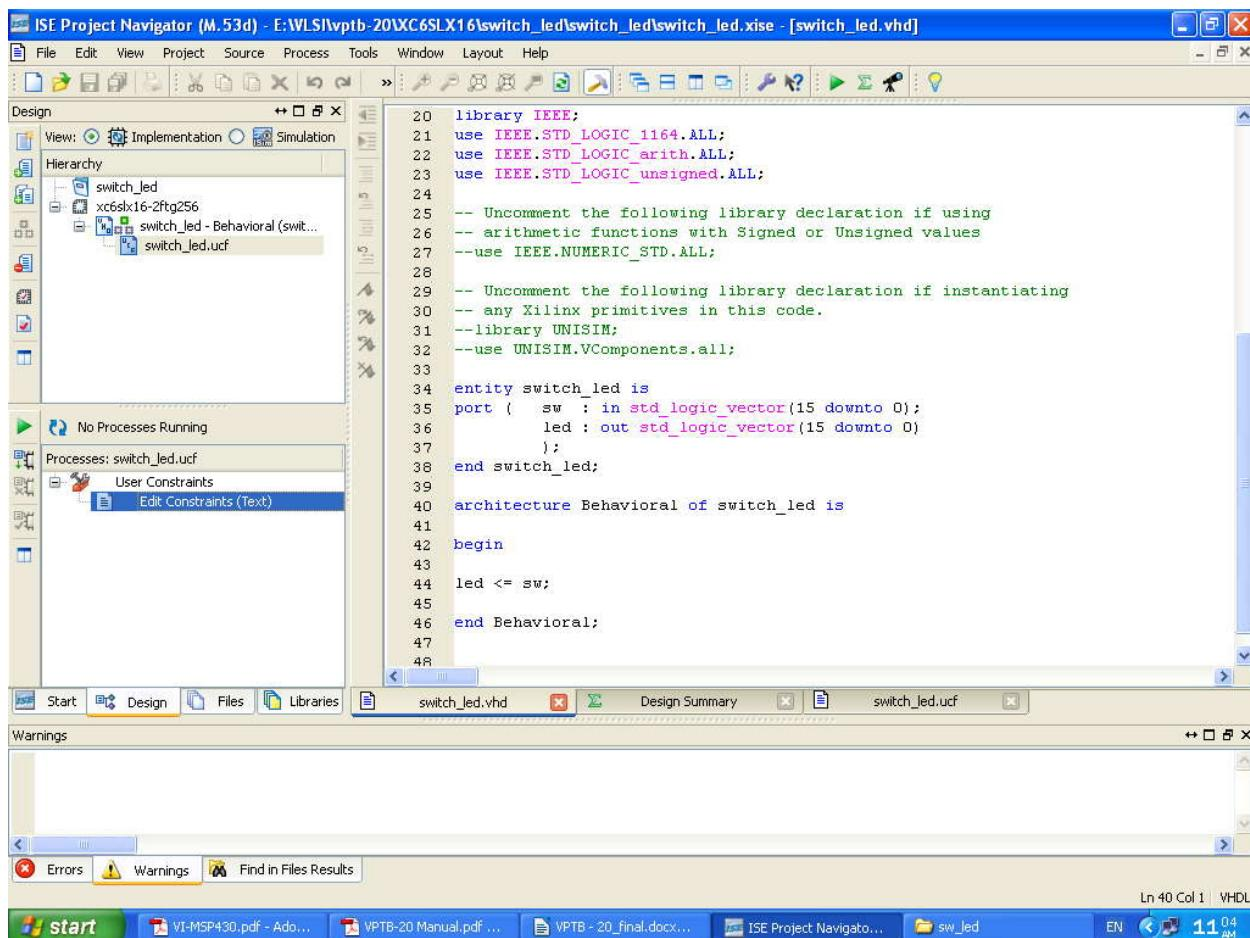

Figure-23
9. Click the UCF file in source window. In process window under **User constraint** double click the **Edit constraints (text)** double click (refer **Figure-23, 24**).